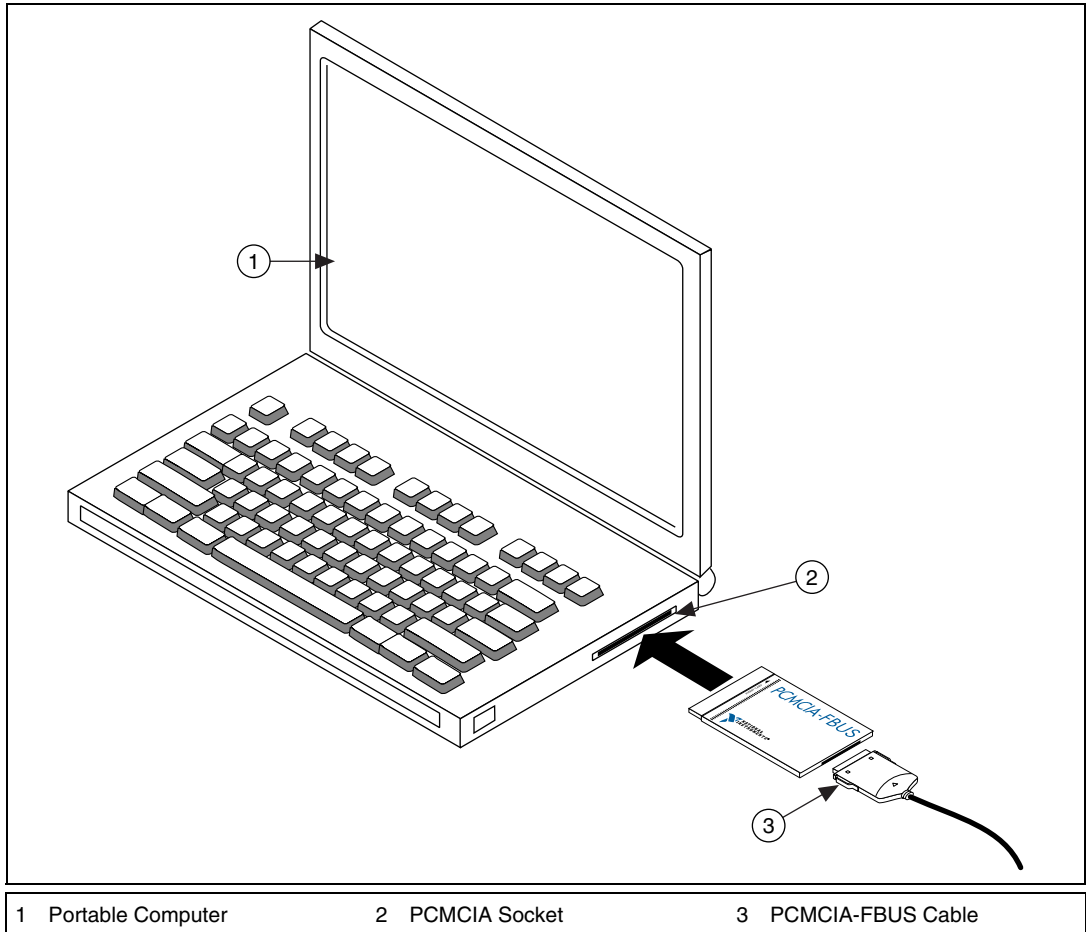

Figure 2-1. Inserting the PCMCIA-FBUS
2. Insert the card into a free PC Card (PCMCIA) socket. The card has no jumpers or switches to set. Figure 2-1 shows how to insert the PCMCIA-FBUS and how to connect the PCMCIA-FBUS cable and connector to the PCMCIA-FBUS card. However, the PCMCIA-FBUS/2 card has two connectors. Refer to Appendix B, Pinout Information, for more information about these two connectors.